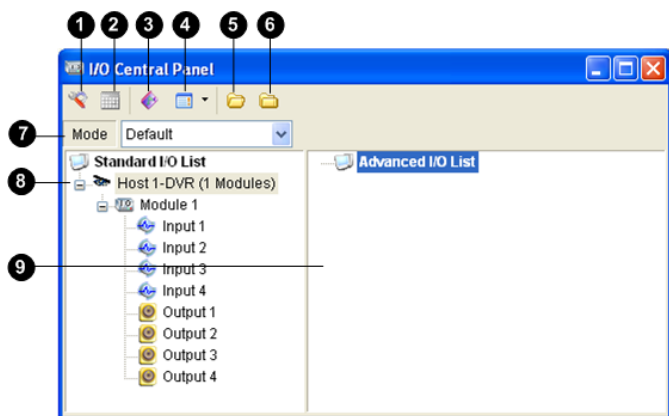

Figure 4-30
1. Right-click on **Advanced I/O List** (No.9, Figure 4-30), and then select **Add A Group**. This dialog box appears.
[Display Setting] You can define the nature of I/O devices by colors. Note that the setting only affects the **Detail** style of the Advanced I/O List (No. 4, Figure 4-30).
1. Click the **Mode** drop-down list (No. 7, Figure 4-30), and select **More Edit**. This dialog box appears.
1. On the panel toolbar, click the **Configure** button (No.1, Figure 4-30), and select **Schedule Setting**. This dialog box appears.
4. To start the mode schedule, click the **Mode Schedule** button (No. 2, Figure 4-30), and then select **Mode Schedule Start**.
- To open the Quick Link window, click the **Toggle Quick Link** button. (No. 3, Figure 4-30).
1. To switch to the Icon style, click the **Advanced I/O List Style** button (No. 4, Figure 4-30) and then select **Icon**.